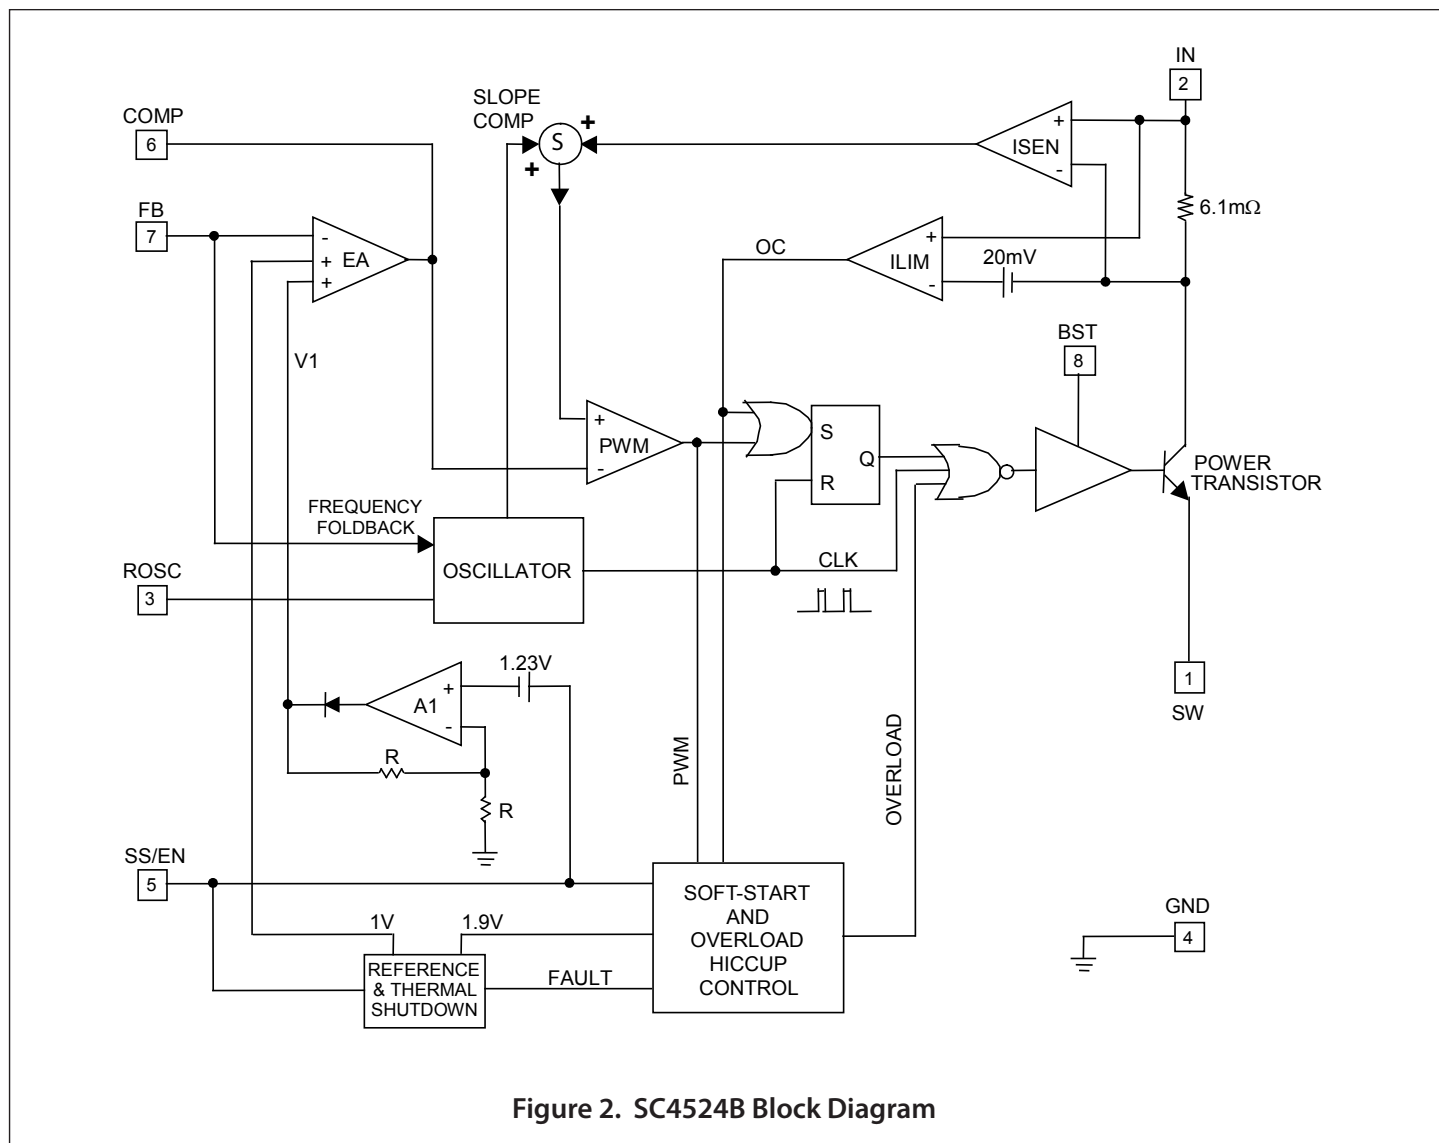

Figure 2. SC4524B Block Diagram
As shown in Figure 2, the switch collector current is sensed with an integrated 6.1mΩ sense resistor. The sensed current is summed with a slope-compensating ramp before it is compared with the transconductance error amplifier (EA) output. The PWM comparator trip point determines the switch turn-on pulse width. The current-limit comparator ILIM turns off the power switch when the sensed signal exceeds the 20mV current-limit threshold.
The error amplifier EA in Figure 2 has two non-inverting inputs. The non-inverting input with the lower voltage predominates. One of the non-inverting inputs is biased to a precision 1V reference and the other non-inverting input is tied to the output of the amplifier  $A_1$ . Amplifier  $A_1$  produces an output  $V_1 = 2(V_{SS/EN} - 1.23V)$ .  $V_1$  is zero and COMP is forced low when  $V_{SS/EN}$  is below 1.23V. During start up, the effective non-inverting input of EA stays at zero until the soft-start capacitor is charged above 1.23V. Once  $V_{SS/EN}$  exceeds 1.23V, COMP is released. The regulator starts to switch when  $V_{COMP}$  rises above 0.4V. If the soft-start interval is made sufficiently long, then the FB voltage (hence the output voltage) will track  $V_1$  during start up.  $V_{SS/EN}$  must be at least 1.83V for the output to achieve regulation. Proper soft-start prevents output overshoot. Current drawn from the input supply is also well controlled.
As the load draws more current from the regulator, the current-limit comparator ILIM (Figure 2) will eventually limit the switch current on a cycle-by-cycle basis. The over-current signal OC goes high, setting the latch B3. The soft-start capacitor is discharged with (ID - IC) (Figure 3). If the inductor current falls below the current limit and the PWM comparator instead turns off the switch, then latch B3 will be reset and IC will recharge the soft-start capacitor. If over-current condition persists or OC becomes asserted more often than PWM over a period of time, then the soft-start capacitor will be discharged below 1.9V. At this juncture, comparator B4 sets the overload latch B2. The soft-start capacitor will be continuously discharged with (ID - IC). The COMP pin is immediately pulled to ground. The switching regulator is shut off until the soft-start capacitor is discharged below 1.0V. At this moment, the overload latch is reset. The soft-start capacitor is recharged and the converter again undergoes soft-start. The regulator will go through soft-start, overload shutdown and restart until it is no longer overloaded.
The PWM latch in Figure 2 is reset every cycle by the clock. The clock also turns off the power transistor to refresh the bootstrap capacitor. This minimum off time limits the attainable duty cycle of the regulator at a given switching frequency. The measured minimum off time is 100ns typically. If the required duty cycle is higher than the attainable maximum, then the output voltage will not be able to reach its set value in continuous-conduction mode.